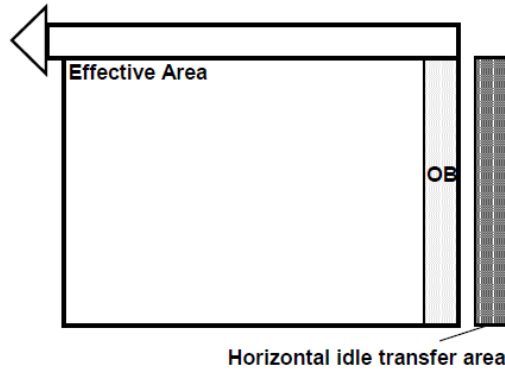

Figure 5. Dark signal.
- 3) See figure 5 below for Test area